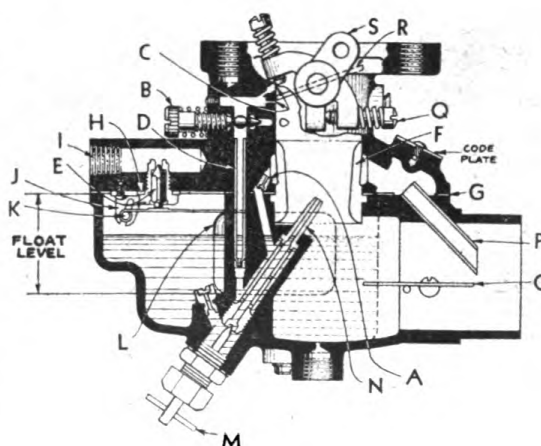
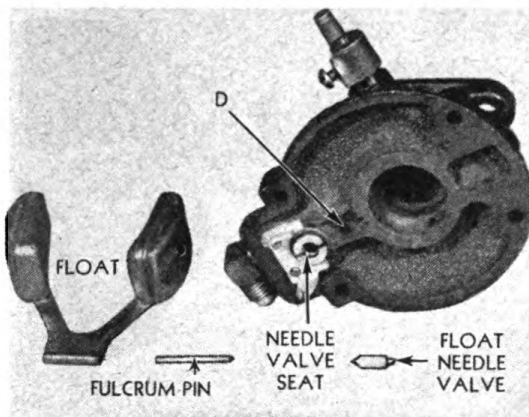

Figure 100
Figure 107
(4) Remove and clean the idle needle valve ("B" Figure 100). Hold finger over hole ("D" Figure 107), and apply air pressure to hole from which idle needle valve was removed. Air should pass through upper body and out two small holes ("C" Figure 100). These holes and idle tube ("D" Figure 100) must be open to obtain a satisfactory idle adjustment of carburetor.
(5) The float needle valve ("E" Figure 100) must seat tightly and must be free from specks of dirt, also free from wear. A poorly seating float needle valve will cause leakage and too high a fuel level will result. A high fuel level will cause too rich a mixture and flooding. This condition will also cause hard starting, especially if the engine is warm from previous running.
(8) Place venturi ("F" Figure 100) in main body and place large gasket ("G" Figure 100) over venturi onto main body. Then re-